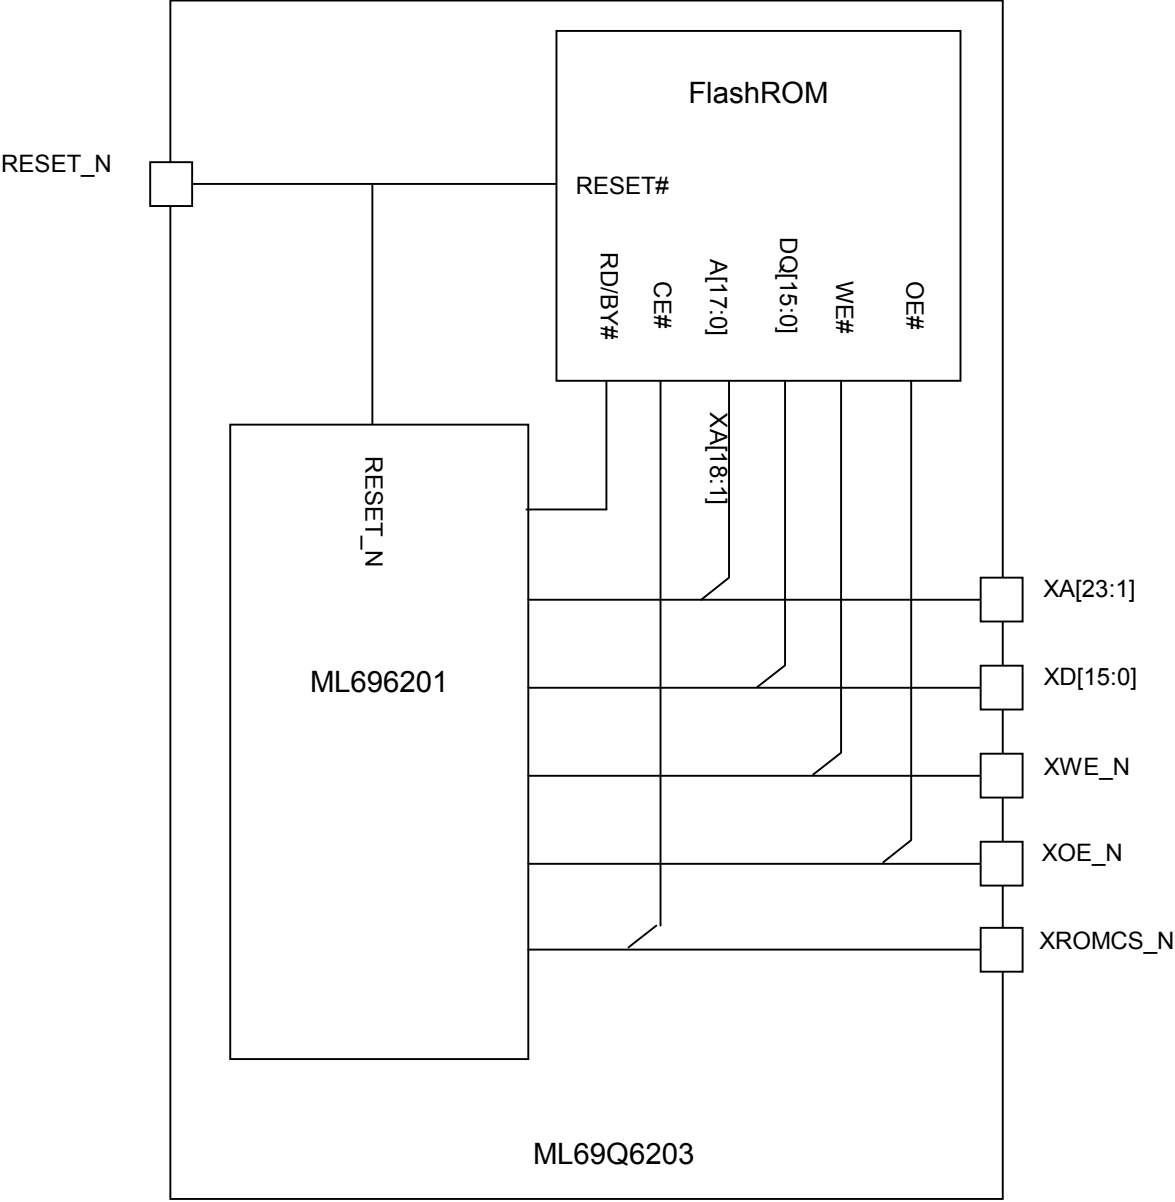

Figure 27-1 Connection of the Built-In Flash ROM Control Signals
Figure 27-1 shows the connection of the built-in Flash ROM control signals.
*: DQ7 is bit 7 of a built-in Flash ROM data output. See Figure 27-1.
*: DQ6 is bit 6 of a built-in Flash ROM data output. See Figure 27-1.